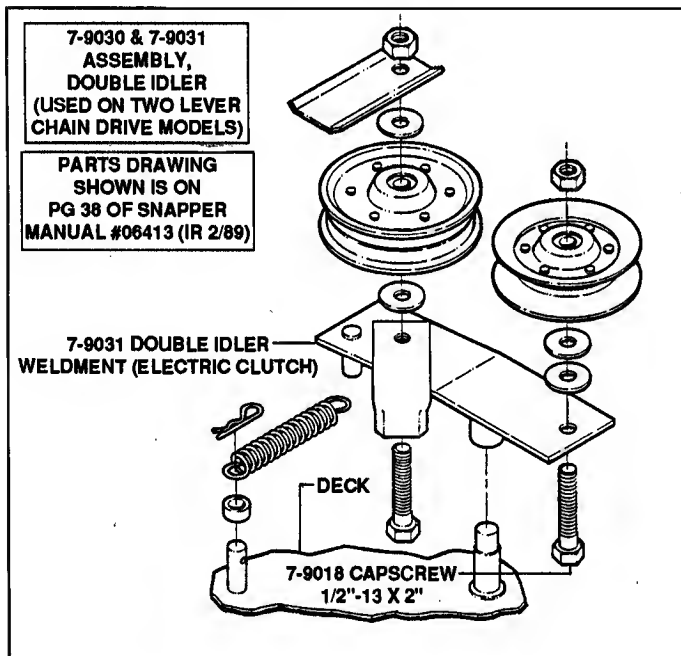

FIGURE 11.15
- (a) Parts for the 1988 thru early 1990 double idler are shown below in Figure 11.15. Those parts called out with part numbers CANNOT be interchanged with a different model deck!